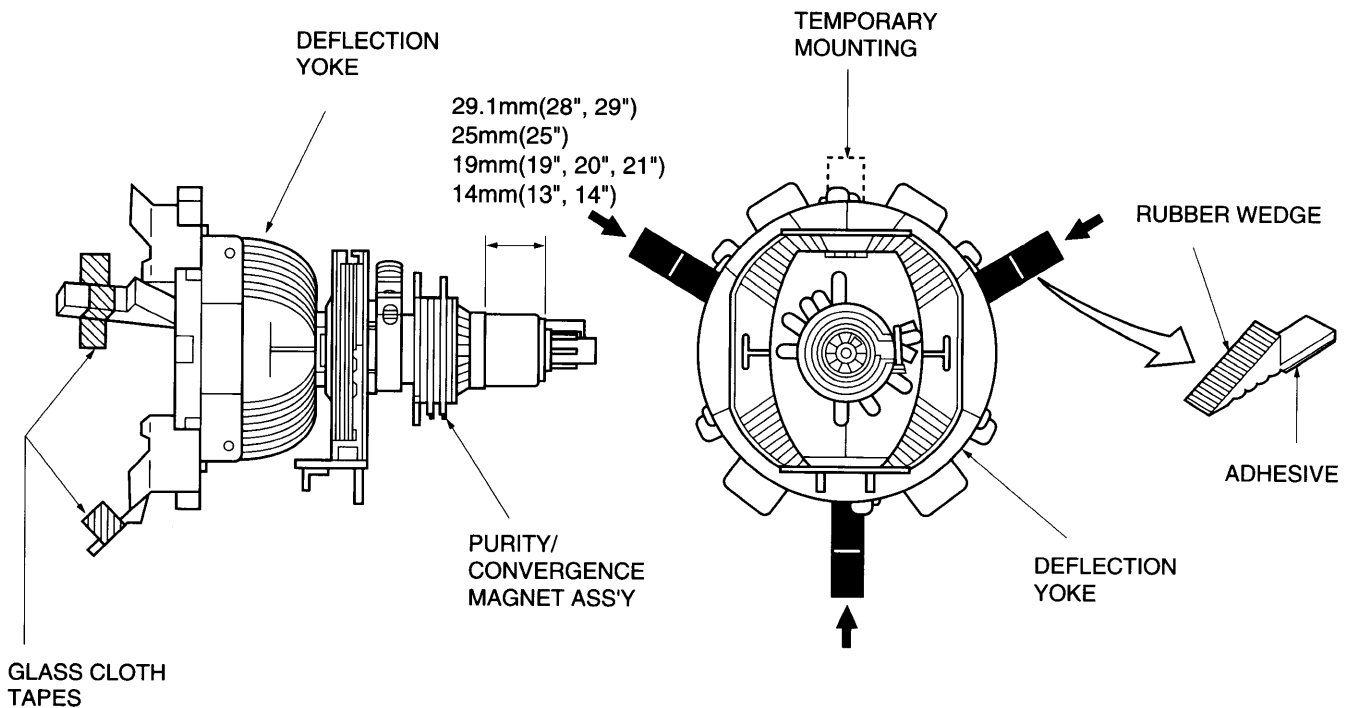

Figure 1.
Note: The PURITY/CONVERGENCE MAGNET assembly and rubber wedges need mechanical positioning. Refer to figure 1.
2. Temporarily put a wedge as shown in figure 1. (Do not remove cover paper on adhesive part of the wedge.)
9. Stick three adhesive tapes on wedges as shown in figure 1.